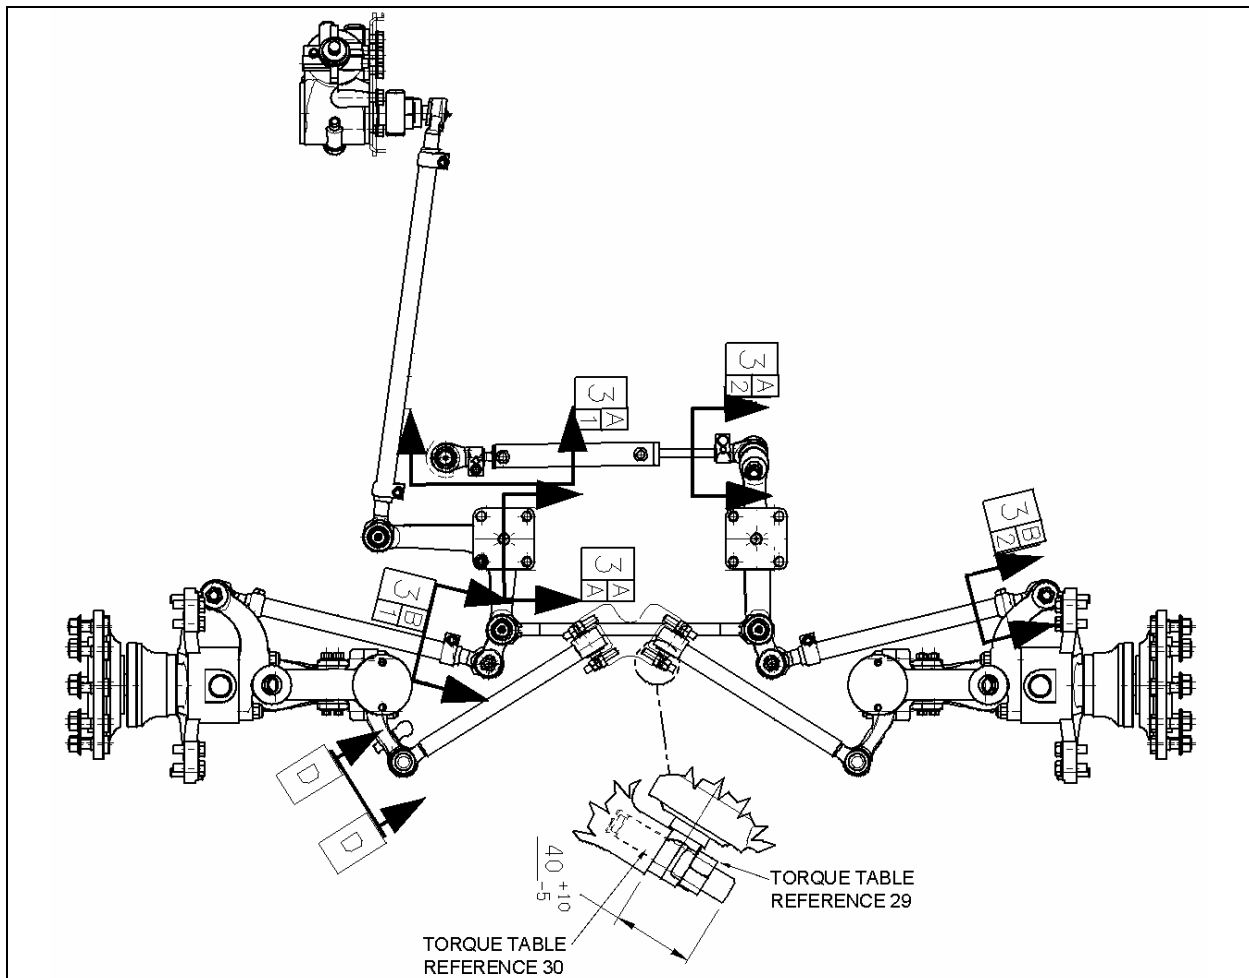

FIGURE 2: LOCATION OF CLAMPS
2. For a full left and right turn, check clamps' position and for interfering parts. Refer to figures 2 to 6 for location and positioning of clamps. If readjustment is required, make the proper adjustment.